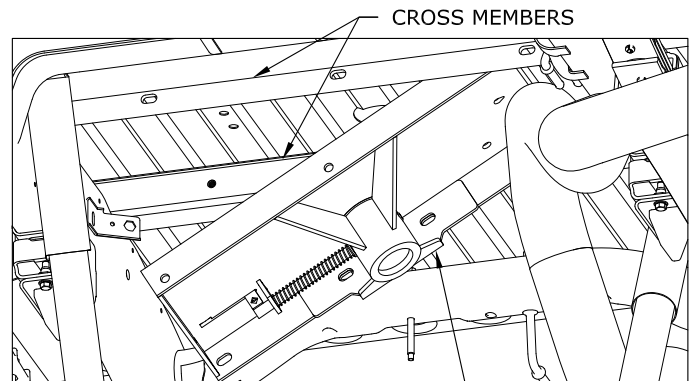
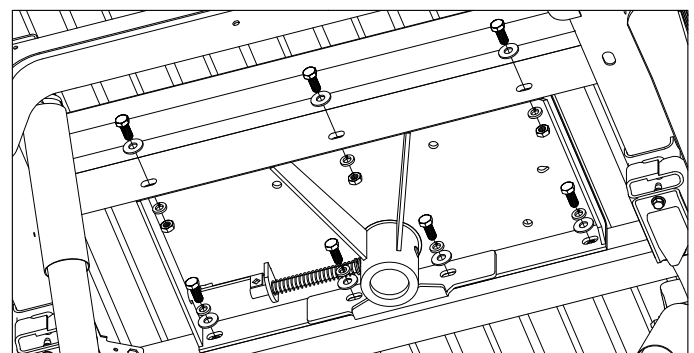

FIGURE B5: View under bed looking at area above axle.
FIGURE B6: View under bed of hardware assembly.
2. **Install Center Section.** Install the center section with the latch pin on the driver side. Raise the center section over the differential while sliding the center section over the exhaust and guiding the raised 4" circle on top of the center into the 4" hole in the truck bed floor, See figure B5. Move rear cross member forward against the center section. Place a 1/2" flat washer on a 1/2" X 1 1/2" hex cap screw. Insert the cap screw through the rear cross member and center section, securing it with a 1/2" lock washer, and a 1/2" finish nut. Thread a 1/2" X 1 1/2" hex cap screw with a 1/2" lock washer and a 1/2" flat washer into the front cross member from the inside of the center section, See figure B6. (Do not tighten hardware at this time)